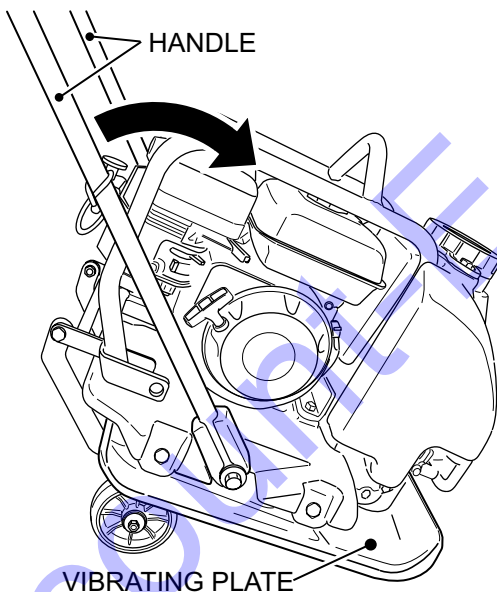

Figure 14. Tilting the Compactor
- Push plate compactor handle upward/forward tilting the compactor until the vibrating plate (Figure 14) touches the ground.